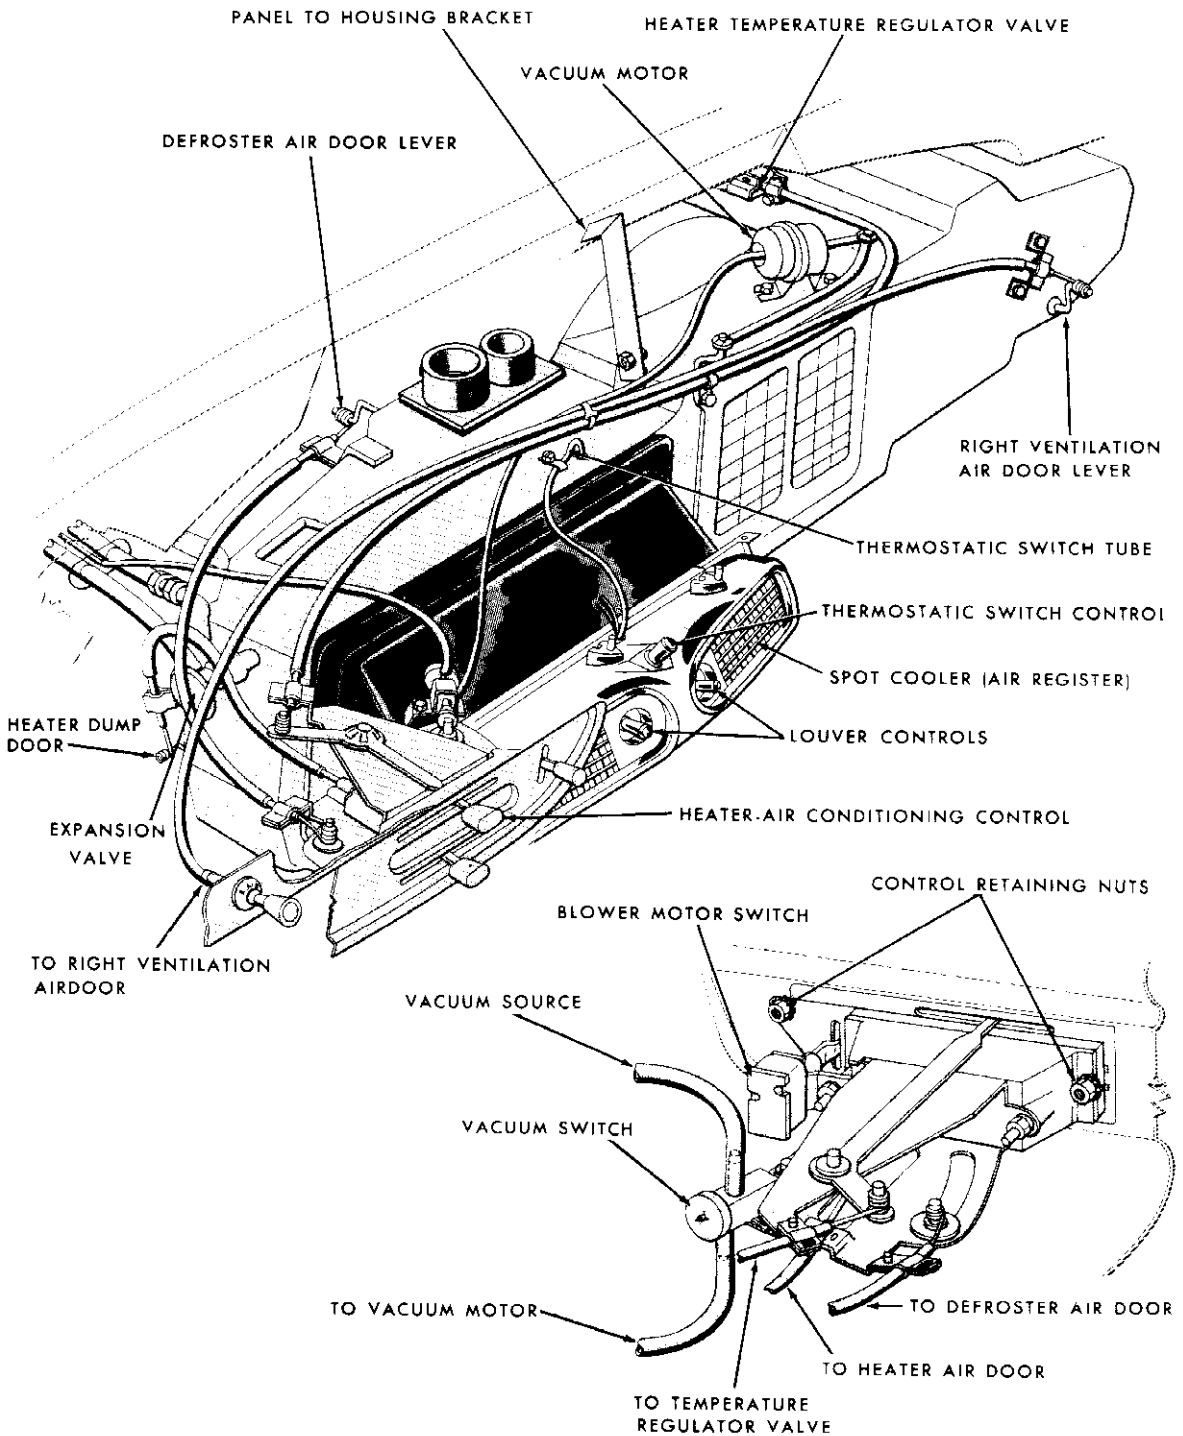

Fig. 4-5—Heater and Air Conditioning Control System—1961—(61MM-8811)
The operating controls consist of a heater-air conditioning control panel located in the instrument panel and a "Spot Cooler" (air register) with a thermostatic control switch, which is located below the center of the instrument panel. (See figure 4-5.)
5. Remove 2 control retaining nuts at the back side of the instrument panel. (See figure 4-5.)
2. Disconnect the two vacuum hoses at the vacuum valve switch. (See figure 4-5.)